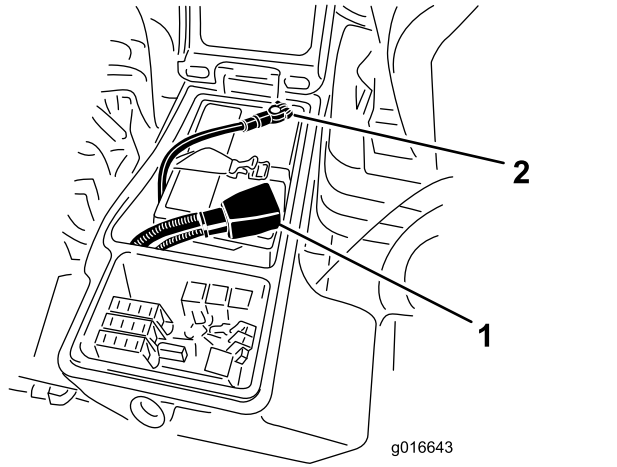

Figure 77
- Install the positive battery cable (red) to the positive (+) battery post (Figure 77).